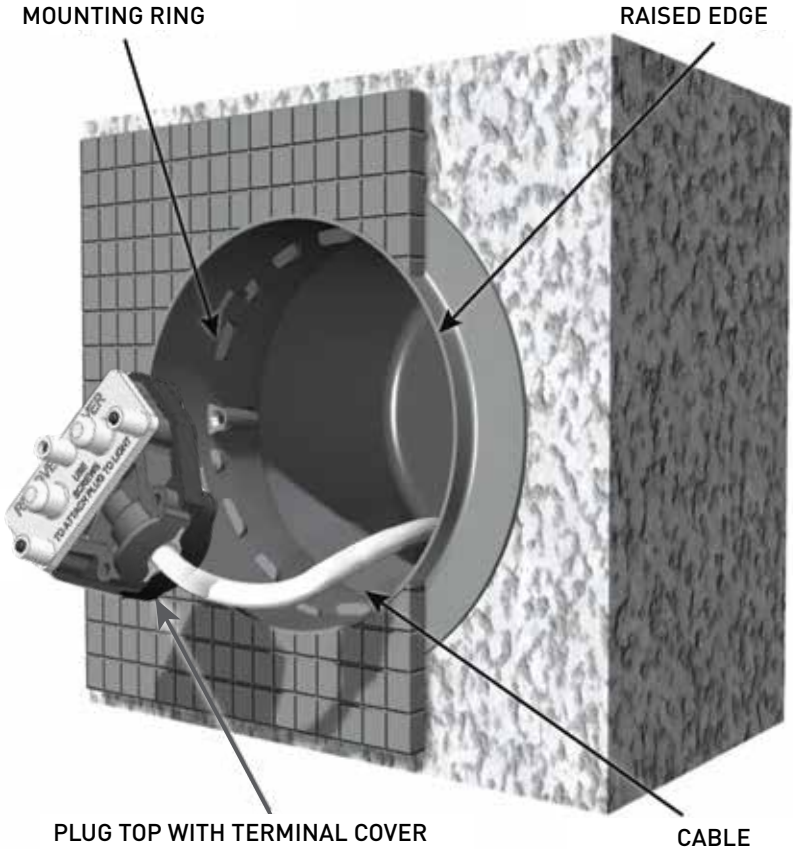

Fig.5
**CAUTION:** Do not install the light until after the pool has been acid washed. (Fig. 5)